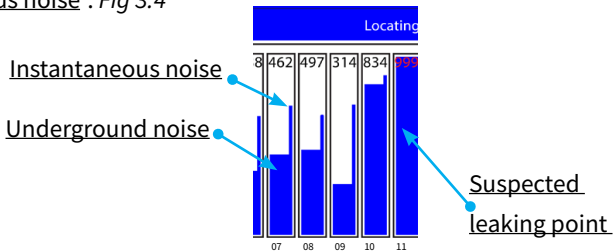

Fig. 3.4 _Spectrum graph
4. Now select “01” spectrum bar to start receiving signal from the sample location 01. The Blue colour thick bar (Underground noise) with “RED colour” highlighted frequency values will appear on the screen and as you can observe there will be a thin bar which represents “Instantaneous noise”. *Fig 3.4*